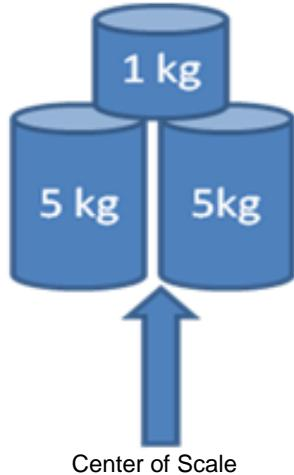

Figure 4-3 Weight Calibration Configuration for Kilograms
- b. Place 11 kg weights on the scanner as shown in Figure 4-3; two 5 kg weights centered on the center of the scale, and one 1 kg weight on top between the two 5 kg weights.